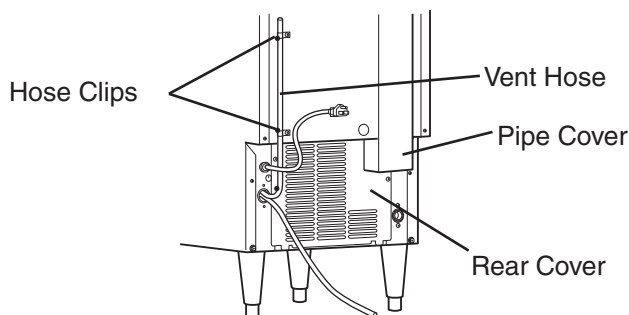

Fig. 10
- 13) Secure the vent hose to the icemaker using the two hose clips and two 4x8 truss head screws. See Fig. 10.